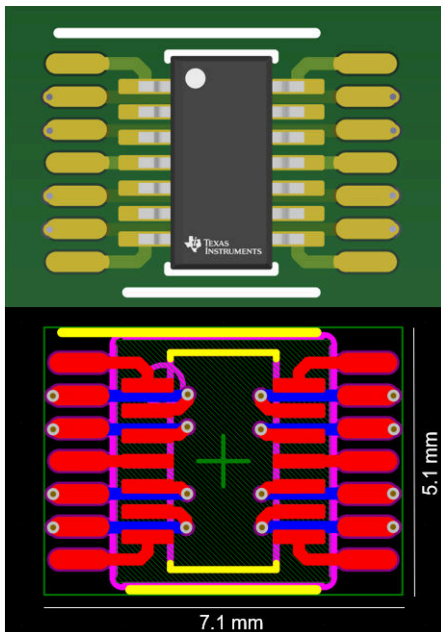

Figure 2. PW + DYY Dual Footprint
When combining packages with similar pin configurations the smaller package footprint can sometimes be used within the land pattern area of the larger package. Figure 2 shows an example of this for an SOT (DYY) and a TSSOP (PW) package.